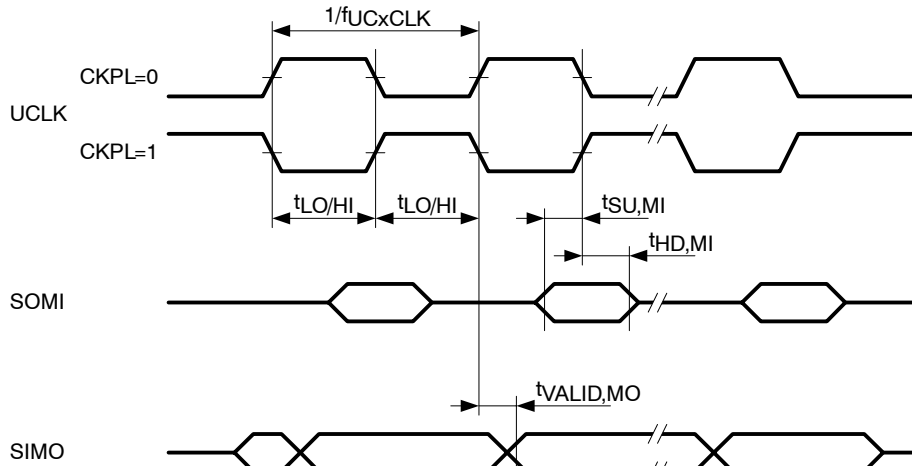
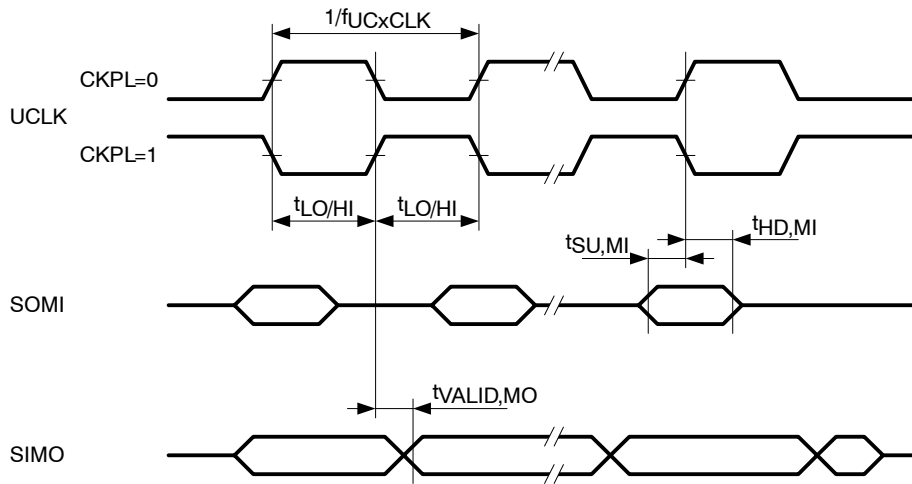

Figure 20. SPI Master Mode, CKPH = 0
Figure 21. SPI Master Mode, CKPH = 1
**USCI (SPI master mode) (see Figure 20 and Figure 21)**